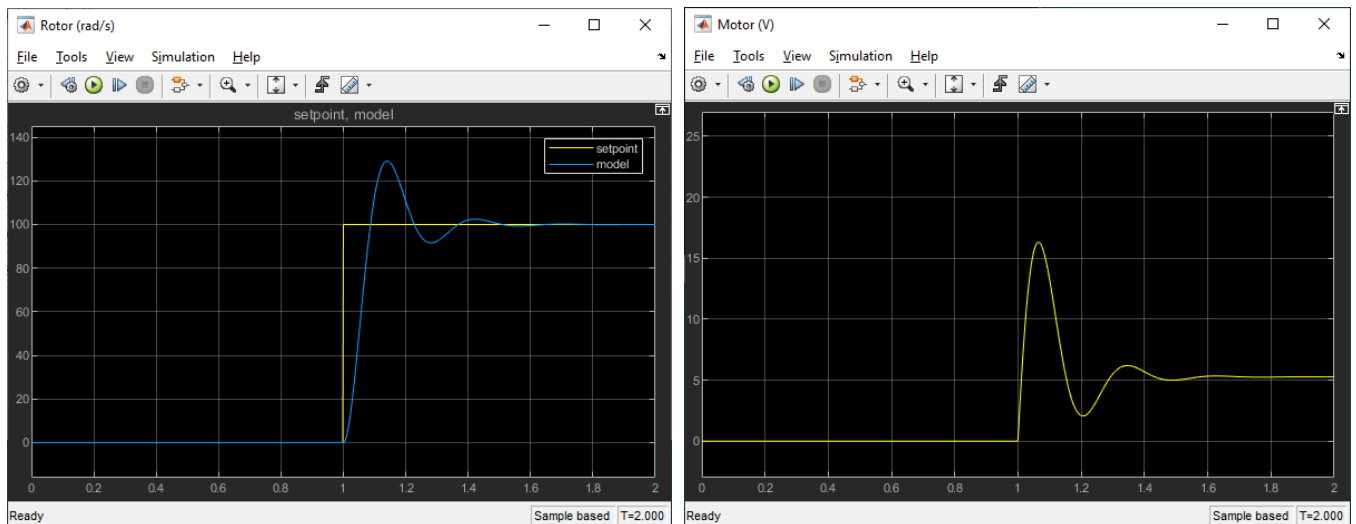

Figure 2 – Sample simulated rotor speed control response using $k_p=0.1$ and $k_i=5$.
5. Run the *s_aero2_rotor_pi* Simulink model to simulate the closed-loop response of the PI control. The response using the default PI gains $k_p = 0.1 \text{ V}/(\text{rad}/\text{s})$ and $k_i = 5 \text{ V}/\text{rad}$ is shown in Figure 2. Note that the response with the designed PI gains will be different.